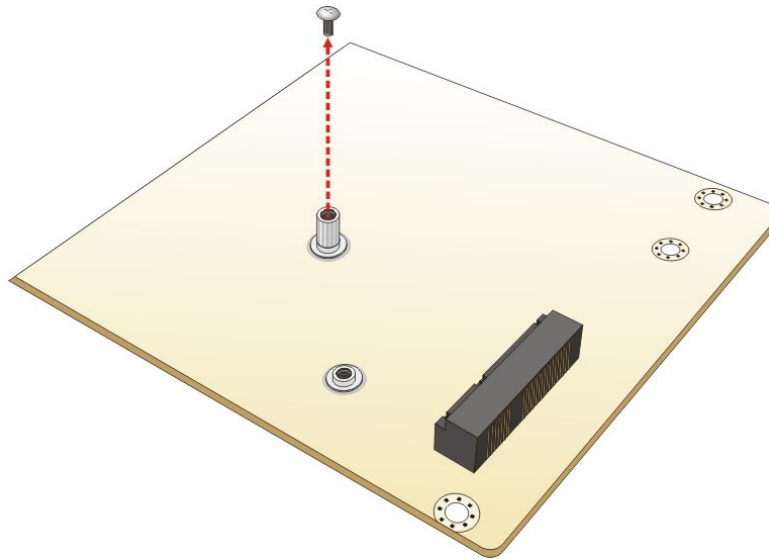

Figure 4-7: Removing the Retention Screw
Step 2: Remove the retention screw. Remove the retention screw as shown in Figure 4-7.
Step 2: **Remove the retention screw.** Remove the retention screw as shown in **Figure 4-7**.